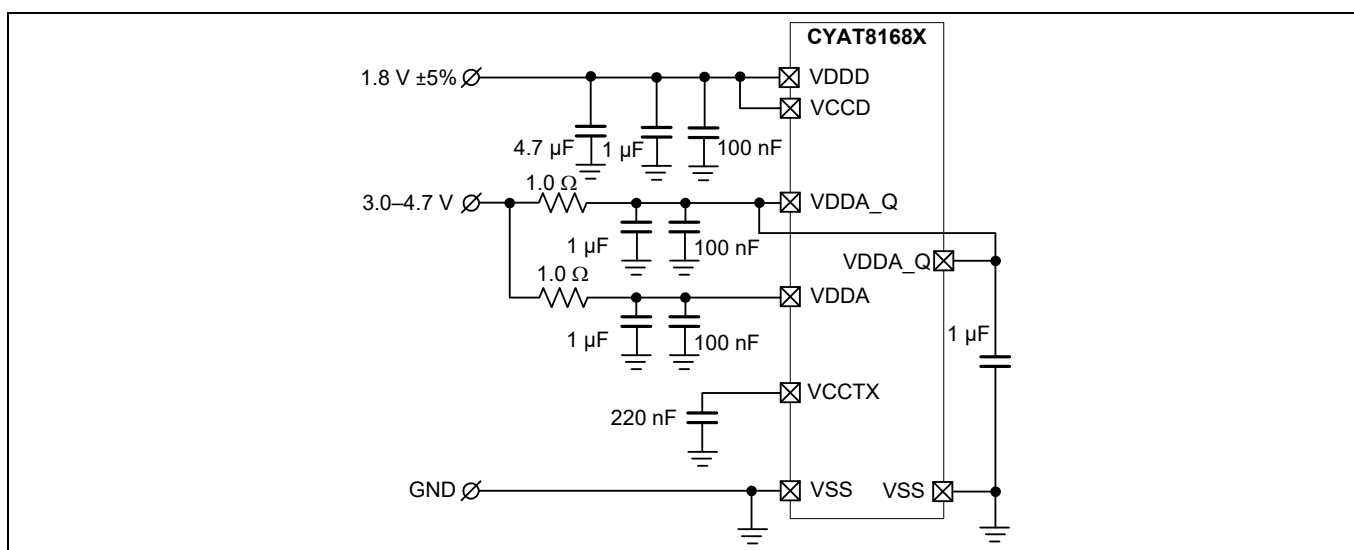
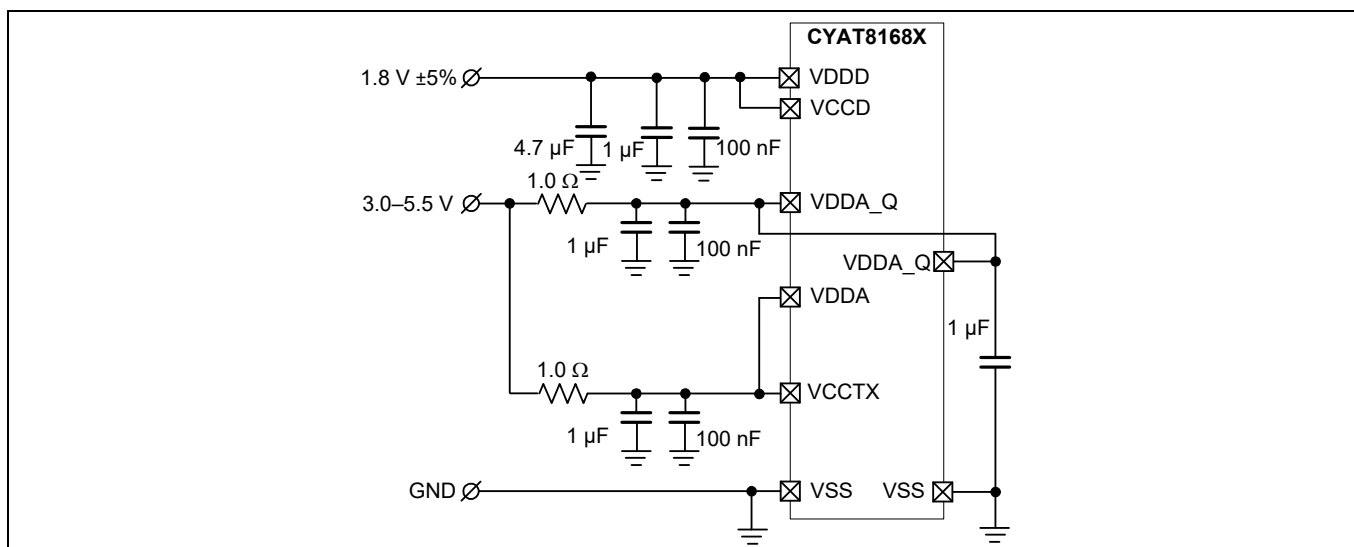
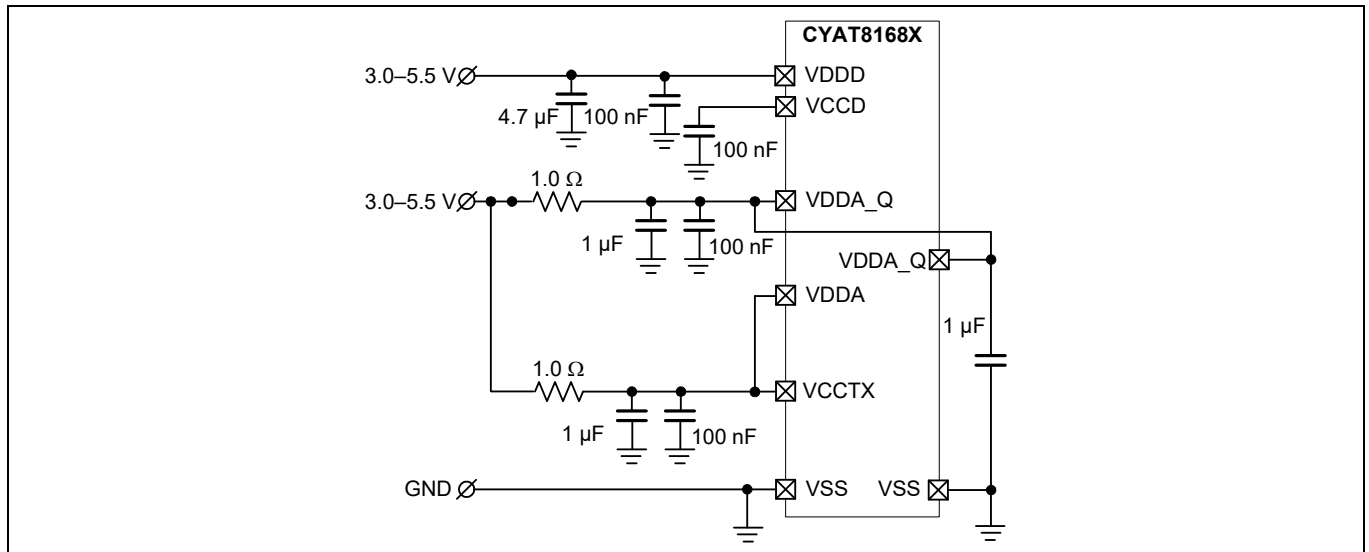

Figure 6 Dual supplies (inc. 1.8 V), TX pump enabled
Figure 7 Dual supplies (inc. 1.8 V), TX pump disabled
Figure 10 Dual supplies (no 1.8 V), TX pump disabled^[9]
- 1- μ F capacitor if VCCD and VDDD are connected (shown in Figure 6 and Figure 7) or 0.1- μ F capacitor if $V_{DDD} \geq 3.0$ V (shown in Figure 8, Figure 9, and Figure 10).
- 1- μ F capacitor if VCCD and VDDD are connected (shown in Figure 6 and Figure 7)
The available power configurations, with the TX pump enabled, are shown in Figure 6 and Figure 8. Figure 7, Figure 9 and Figure 10 show power supply configurations with the TX pump disabled.